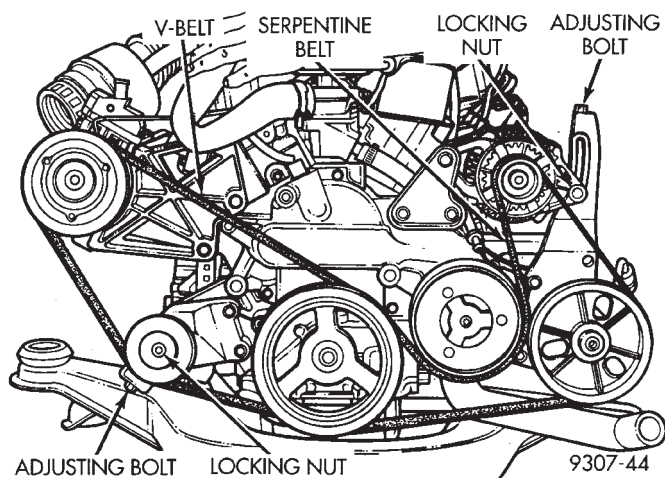
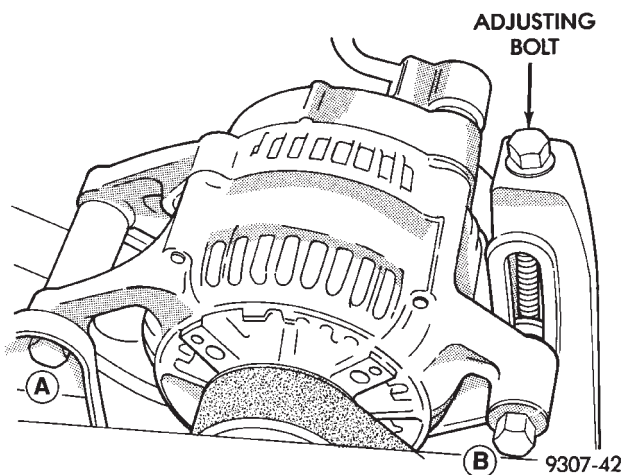
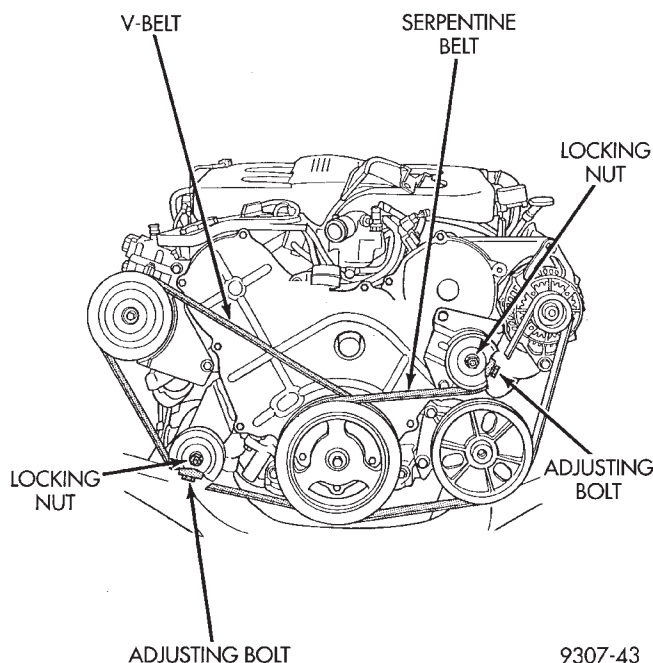

Fig. 29 Accessory Drive—3.3L Engine
Fig. 30 Accessory Drive Belt Adjustment—3.3L Engine
Fig. 31 Accessory Drive—3.5L Engine
The Poly-V serpentine generator/power steering and water pump belt has an adjusting screw on the alternator mounting bracket (Fig. 29) to maintain proper belt tension. To remove or install this belt, Release tension by loosening the alternator mounting bolt A and adjusting bolt locknut B then loosen adjusting bolt (Fig. 30). Reverse procedure to install and tighten belt to specified tension.
The Poly-V generator/power steering belt has an adjustable tensioner pulley located on the timing belt cover (Fig. 31) to maintain proper belt tension. To
remove or install this belt, Release tension by loosening the tensioner pulley nut and adjustment bolt (Fig. 31). Reverse procedure to install and tighten belt to specified tension.
(1) Remove the alternator/power steering pump and water pump drive belt to gain access to the air conditioning drive belt.
(2) To remove and install the air conditioning compressor drive belt, first loosen the tensioner pulley lock nut, then turn the adjusting screw to raise or lower the tensioner pulley assembly (Fig. 29) or (Fig. 31). **To adjust the air conditioning drive belt,** loosen the tensioner pulley nut and adjust belt tension by tightening adjusting screw. Torque pulley nut to 54 N·m (40 ft. lbs.) after adjustment.